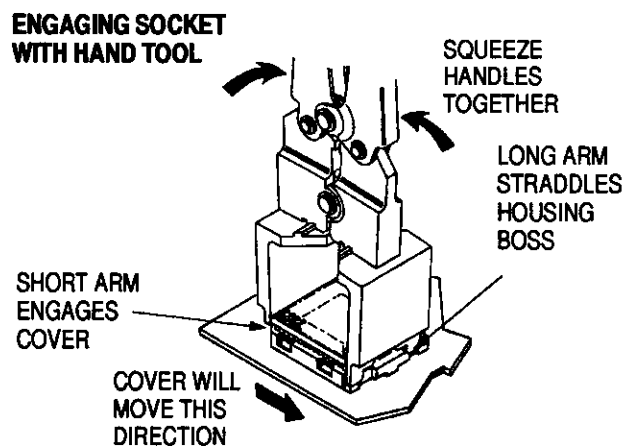

Figure 3
3. Squeeze tool handles together until socket cover clicks to a closed position. Refer to Figure 3. Cover will visibly move to other side of housing, revealing a white housing edge on side of socket opposite from when it was open.
2. Squeeze tool handles together until socket cover clicks to open position. Refer to Figure 3. Cover will visibly move to other side of housing, revealing a white housing edge on side of housing opposite from when it was closed.